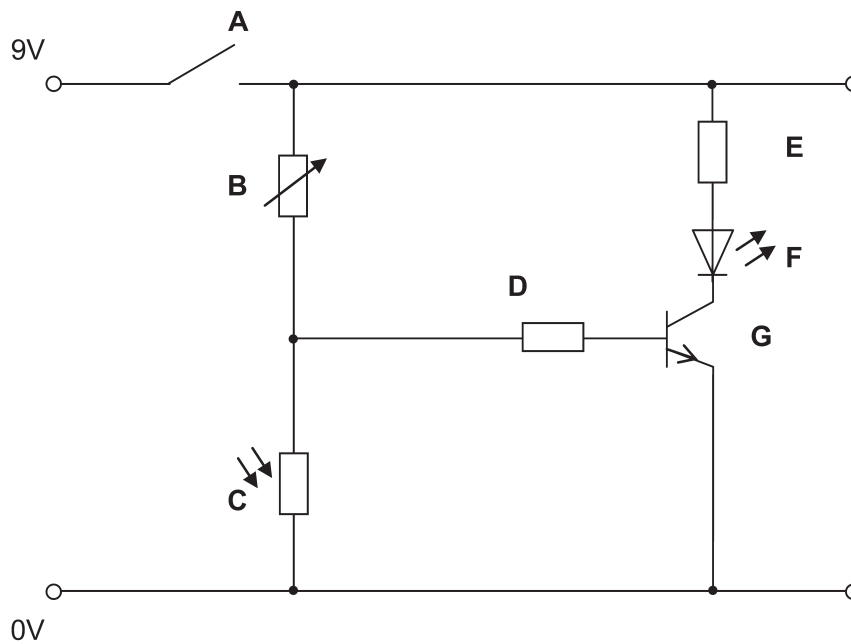

Fig. 7
- 8 Fig. 7 shows an electronic circuit which contains seven components. The component symbols are labelled **A**, **B**, **C**, **D**, **E**, **F** and **G**.